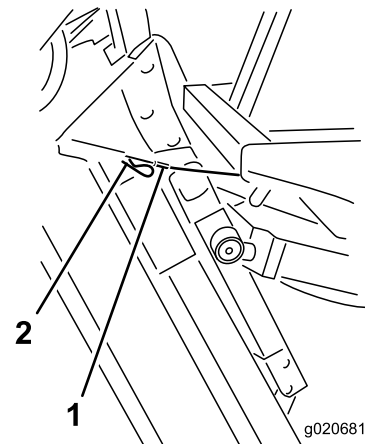

Figure 82
6. Hold the cutting unit upright, fit the cable end over the pin on the cutting unit lift arm, and secure it with the hairpin cotter (Figure 82).